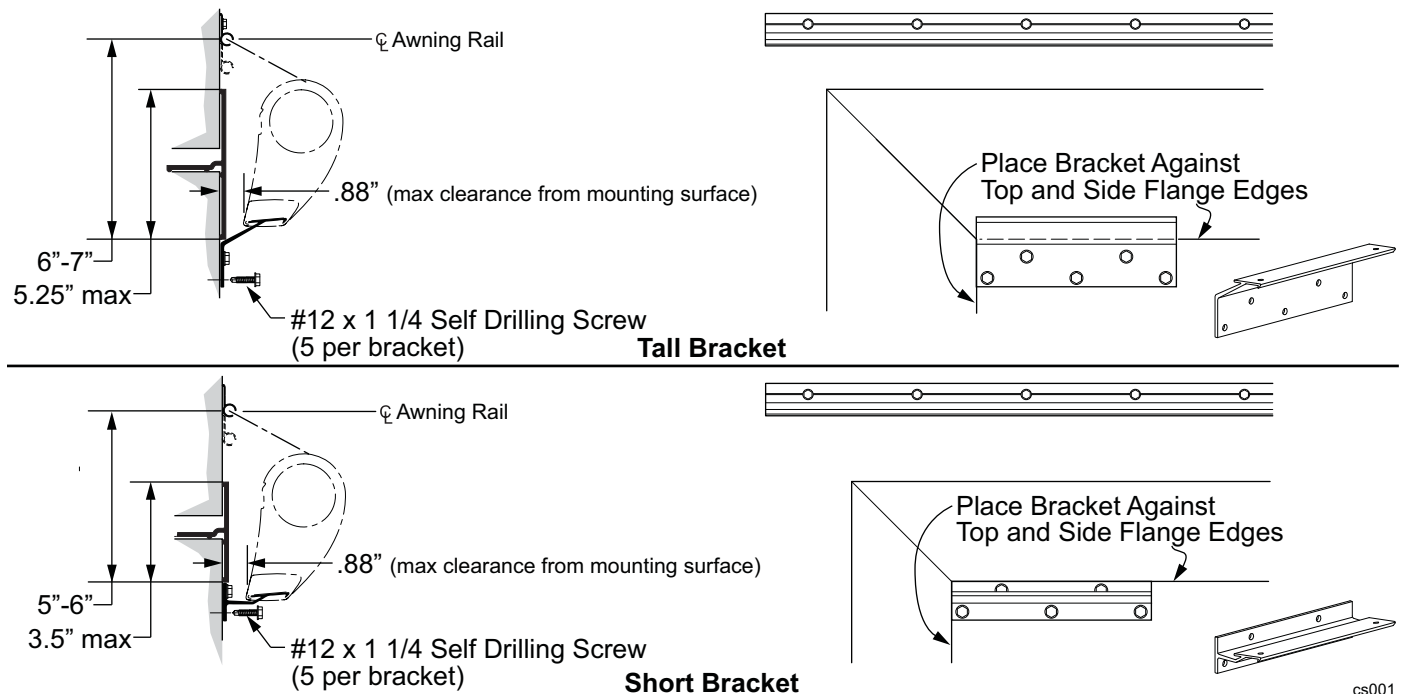

Figure 2. Mounting the Brackets.
1. Measure up from the bracket as shown in Figure 2. This is the centerline of the awning rail slot.